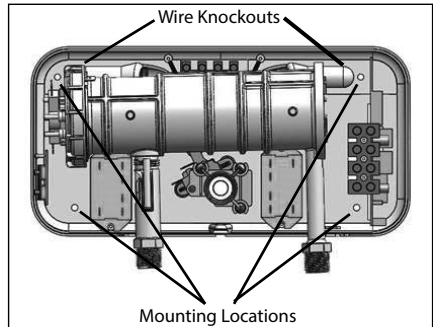

Figure 5 - Wire Knockouts and Mounting the Water Heater
- Position the unit on the mounting surface. Ensure the unit is level. Mount the unit to the wall with four (4) screws of at least one (1) inch in length at the marked points. See Figure 5.